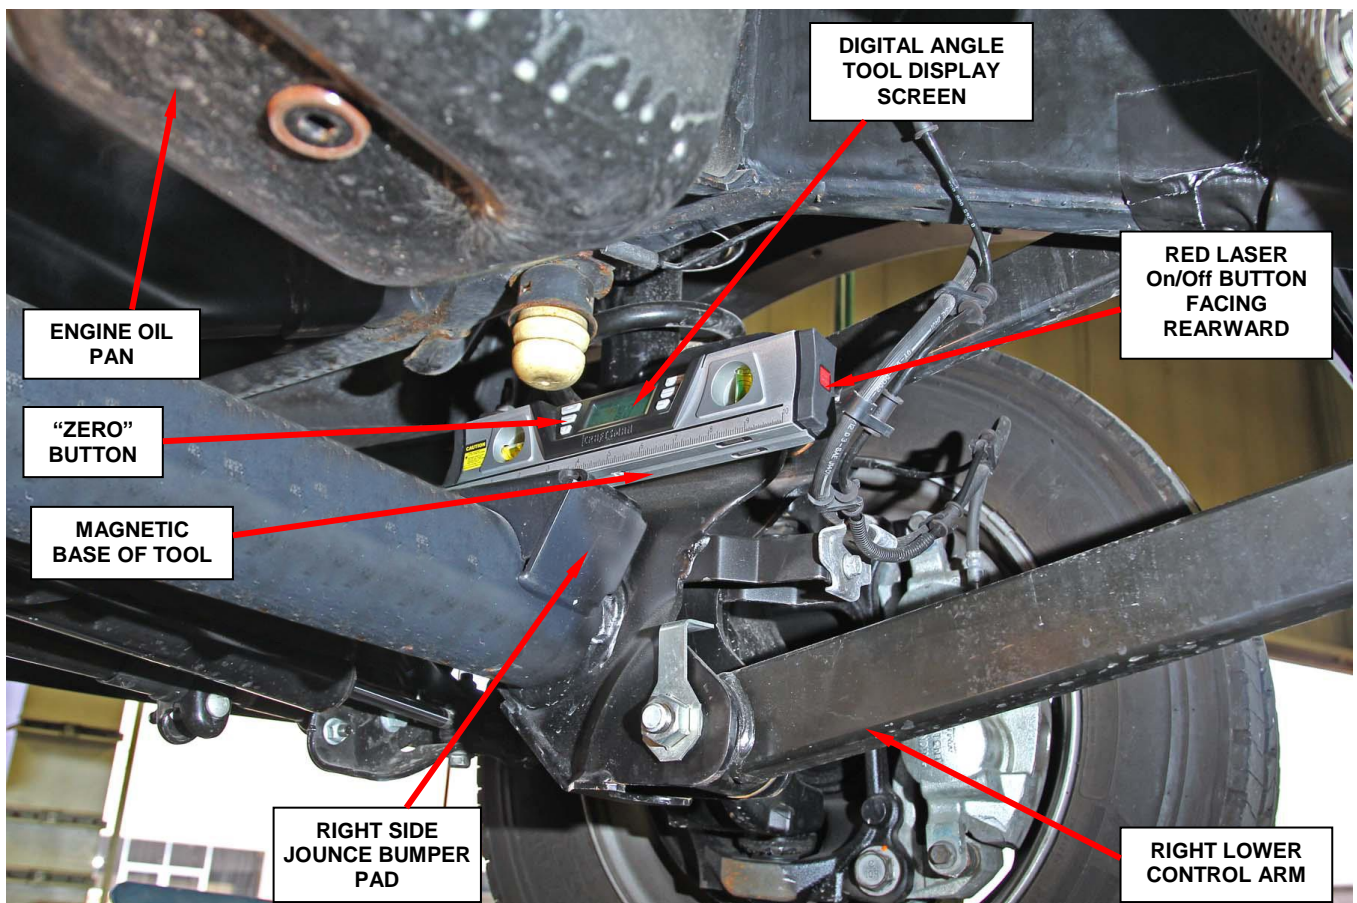

Figure 3 – Digital Angle Tool on Right Jounce Bumper Pad
5. Place the digital angle tool onto the right jounce bumper pad with the magnetic side down and the red laser ON/OFF button facing rearward (Figure 3).
6. Press and hold the “ZERO” button for approximately three seconds (Figure 3).